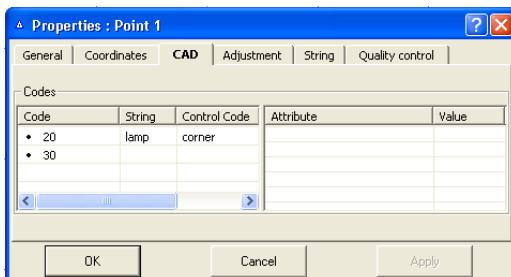

Figure 4-8. Point Properties – CAD tab
- After importing this coordinate file to a job, the following information will be displayed (Figure 4-8) at this point in the *Cad* tab.